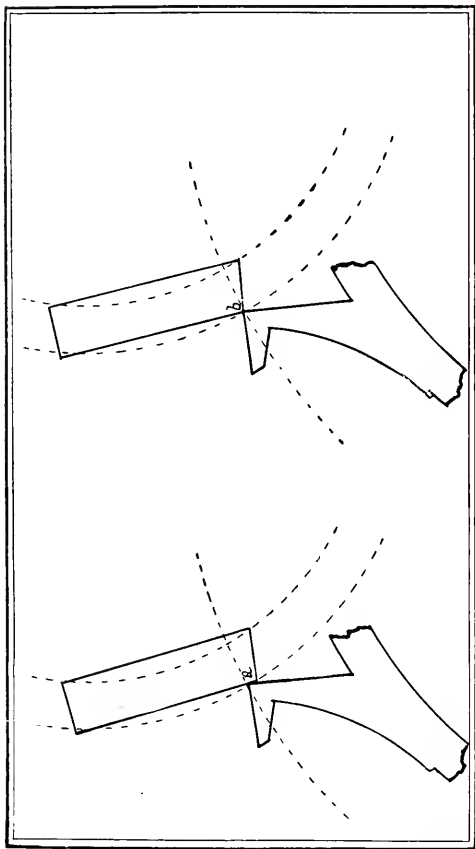

Fig. 6.
*Fig. 6* shows a club-tooth locking the correct amount at *a*. If this drawing is kept in mind, one can tell the moment the escapement is examined whether the locking is correct or not. At *b.* is seen the pallet stone after it has moved upwards